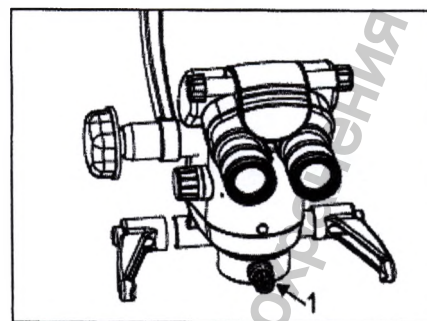

Fig. 19
4. Precise focusing is done with FOV knob (1, fig. 19) by means of its clockwise or counter clockwise rotation, or with the help of pedal putting the blades up and down.